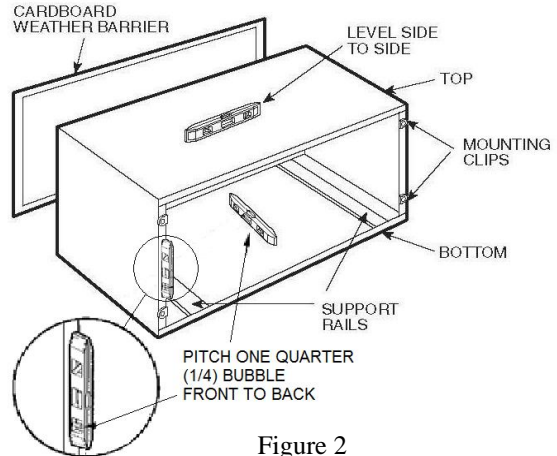

Figure 2
Step 3 Leveling Sleeve — Place level in locations shown in Figure 2. Sleeve must be mounted level side to side and a $\frac{1}{4}$ bubble tilt front to back. Use shims as required to insure proper level. This will allow for proper condensate drainage.
Check the sleeve is level side to side and a $\frac{1}{4}$ bubble tilt front to back. Adjust if necessary. See Figure 2.